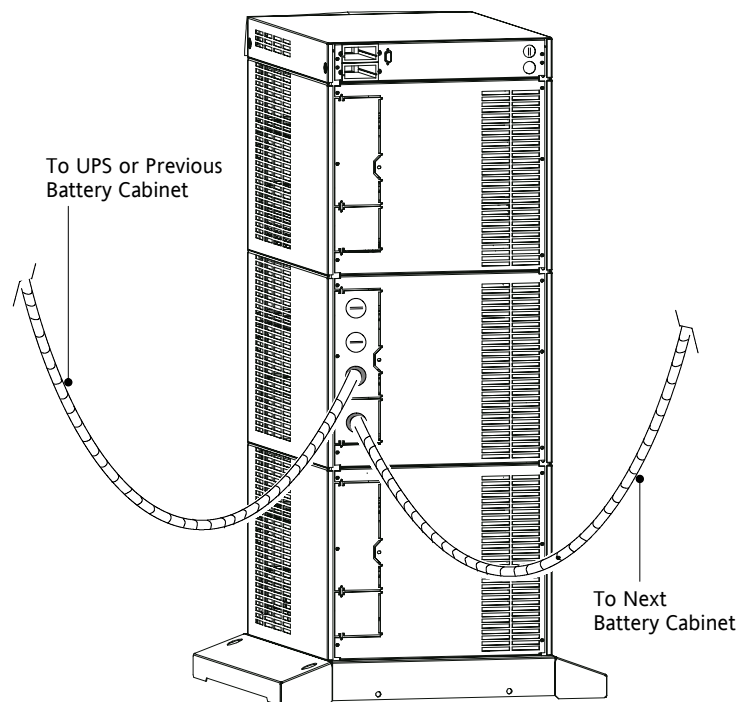

Figure 47. Connecting Additional Battery Cabinets
- 18.** If an additional battery cabinet will be connected to the first, in a daisy-chain configuration, use another external battery cabinet cable assembly for the connections between the battery cabinets (see Figure 47).